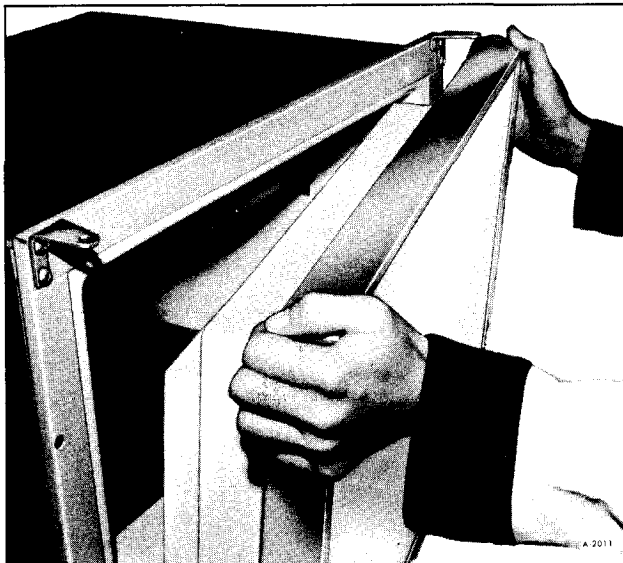

Figure 8-Removing Door
2. Tilt door out at top and lift door up and off bottom hinge pin, as shown in Figure 8.